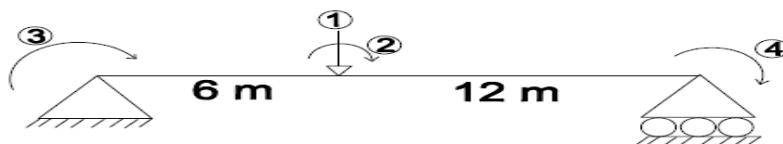

Figure 1
- 1 Develop the flexibility matrix for the given beam [Figure.1] with reference to the coordinates shown. EI is constant.